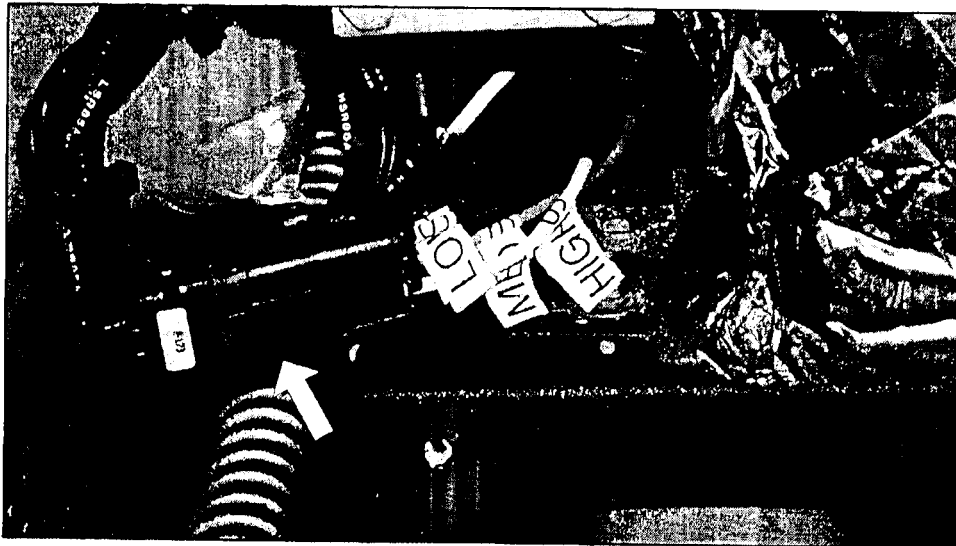

Figure 11.
- 15. Re-connect the packard plug to the harness (Figure 11)